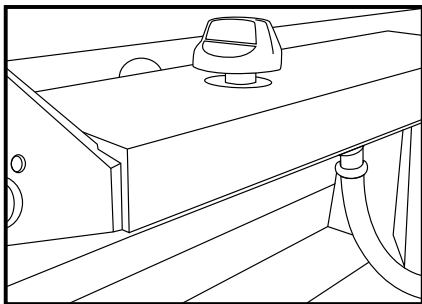

FIGURE F10
1. Turn on front gas burner by pushing down the knob (see Figure F10) and rotating to high. Then push piezo ignition button until burner ignites. Or, light the front burner using 40mm match through porthole, located on the right hand side of the BBQ front panel. If ignition does not occur within 15 seconds, turn off and wait 30 seconds before trying again.